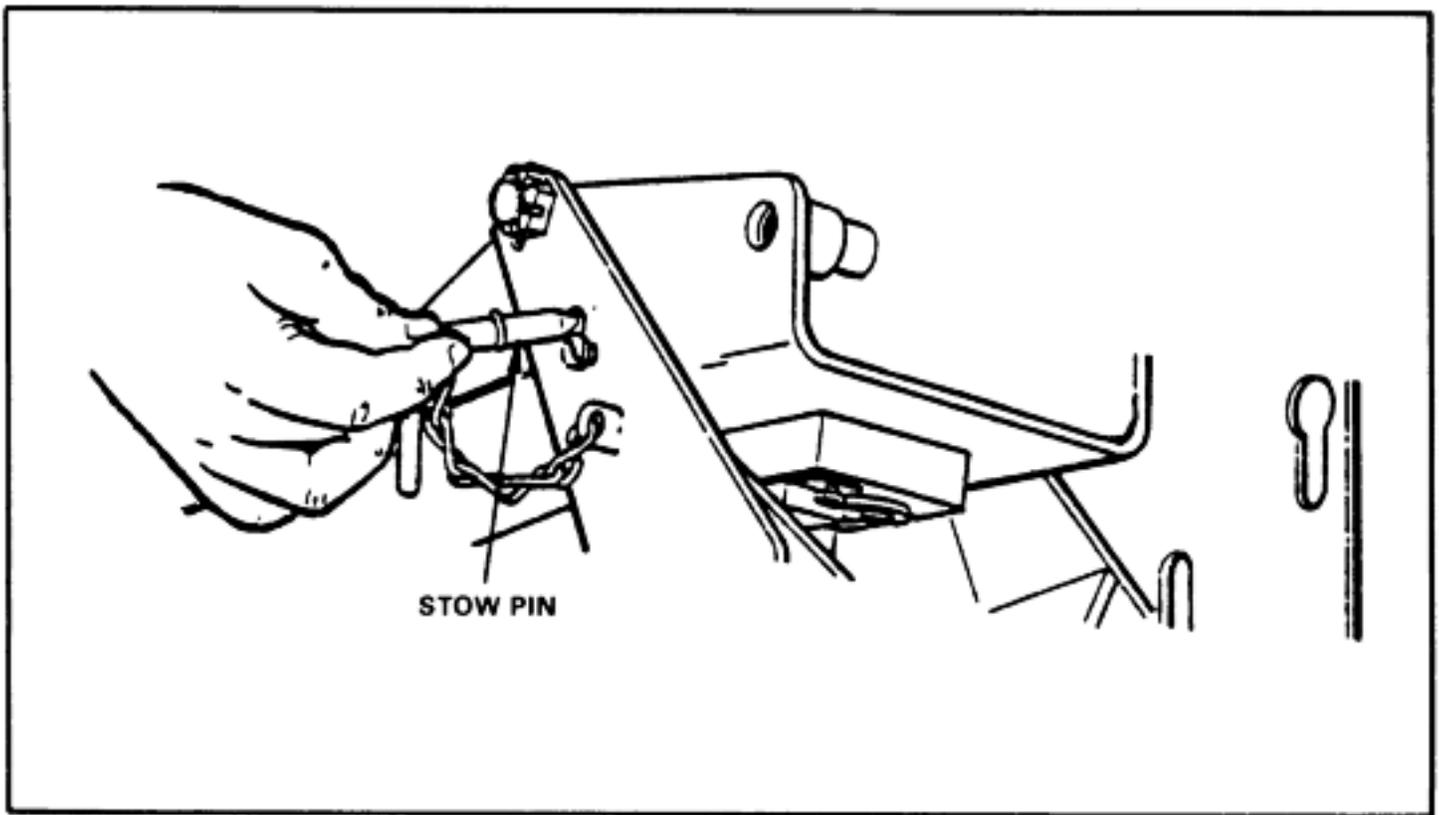

Figure 3-5. Stow pin.
- (1) Center the elevating handwheel between the upper and lower elevating screws.
- (2) Center the traversing handwheel on the upper elevating screw yoke.
- (3) Remove the stow pin from the gun cradle (Figure 3-5).